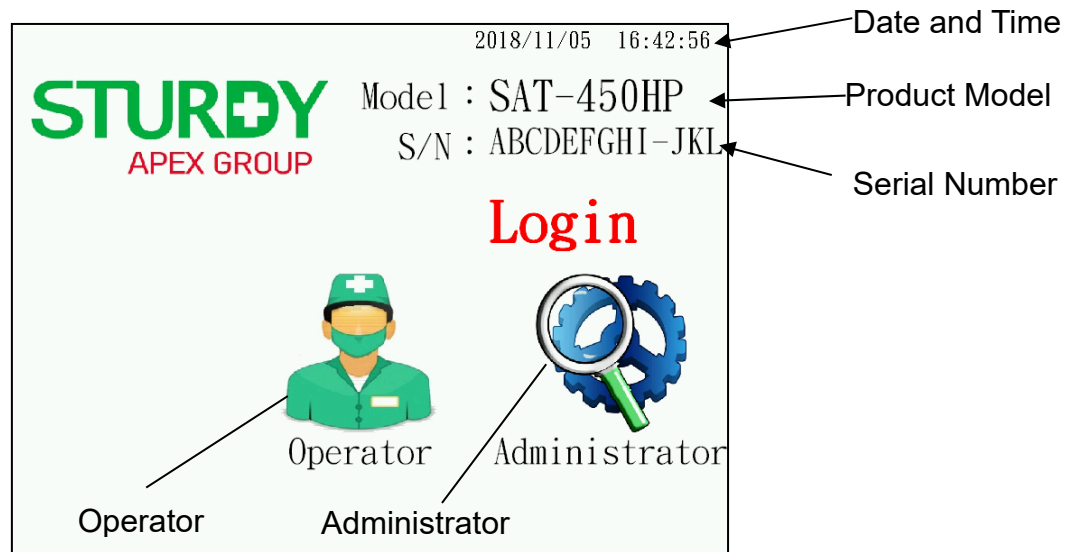

Figure 13 Welcome message
D. Turn on the circuit-breaker 1 and circuit-breaker 2 in the control box of the autoclave, and then switch on the power by the key-lock switch on the panel. Visual inspect the LCD panel is displayed as showing in Figure 13. Turn Off the power and repeat the steps per chapter 4.2A to 4.2D if the autoclave is not shown correctly, and consult with the local distributor or qualified electrician for help.